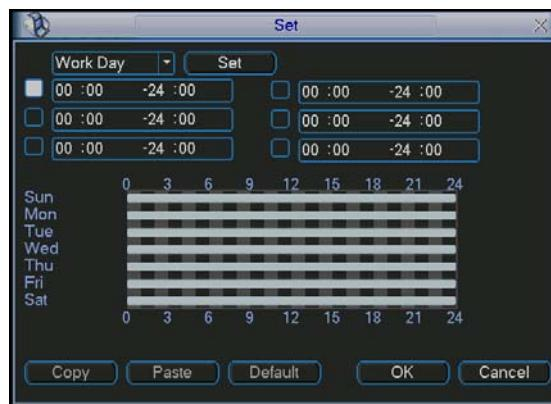
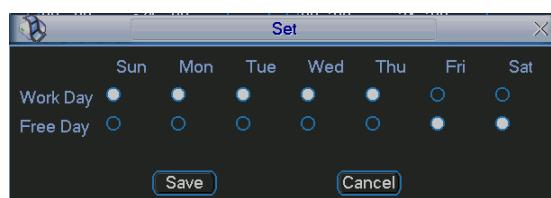

Figure 4-29
Figure 4-30
- Period: Click set button, you can see an interface is shown as in Figure 4-29. Here you can set for business day and non-business day. In Figure 4-29, click set button, you can see an interface is shown as in Figure 4-30. Here you can set your own setup for business day and non-business day.